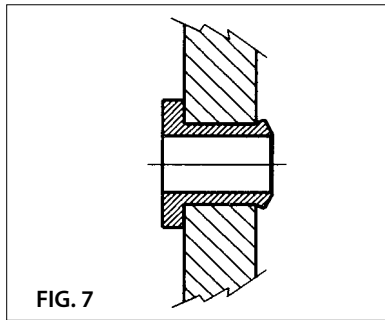

FIG. 7
2.7) The bush will also extrude itself around the opposite side of the rail web (Fig. 7).